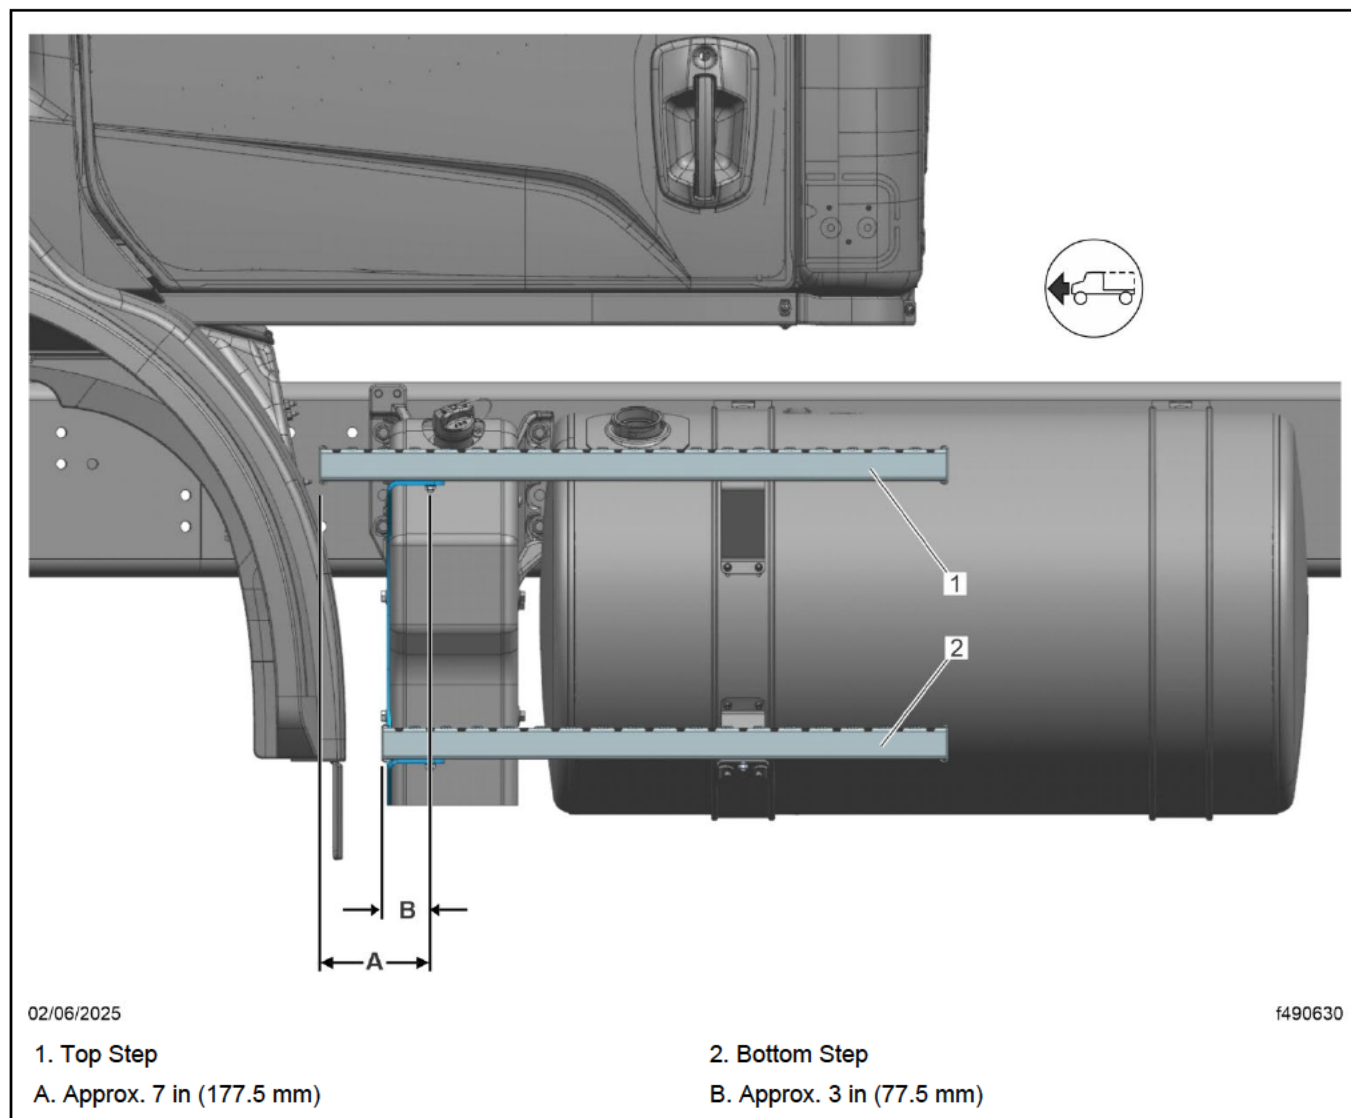

Fig. 6, Positioning the Tread Retaining Bars Holding the Steps
25. Position the tread retaining bars that hold the steps to the fuel tank band brackets, and if required, adjust the position of the treads as shown in **Fig. 6**. Tighten the tread retaining bars 9 lbf·ft (12 N·m).